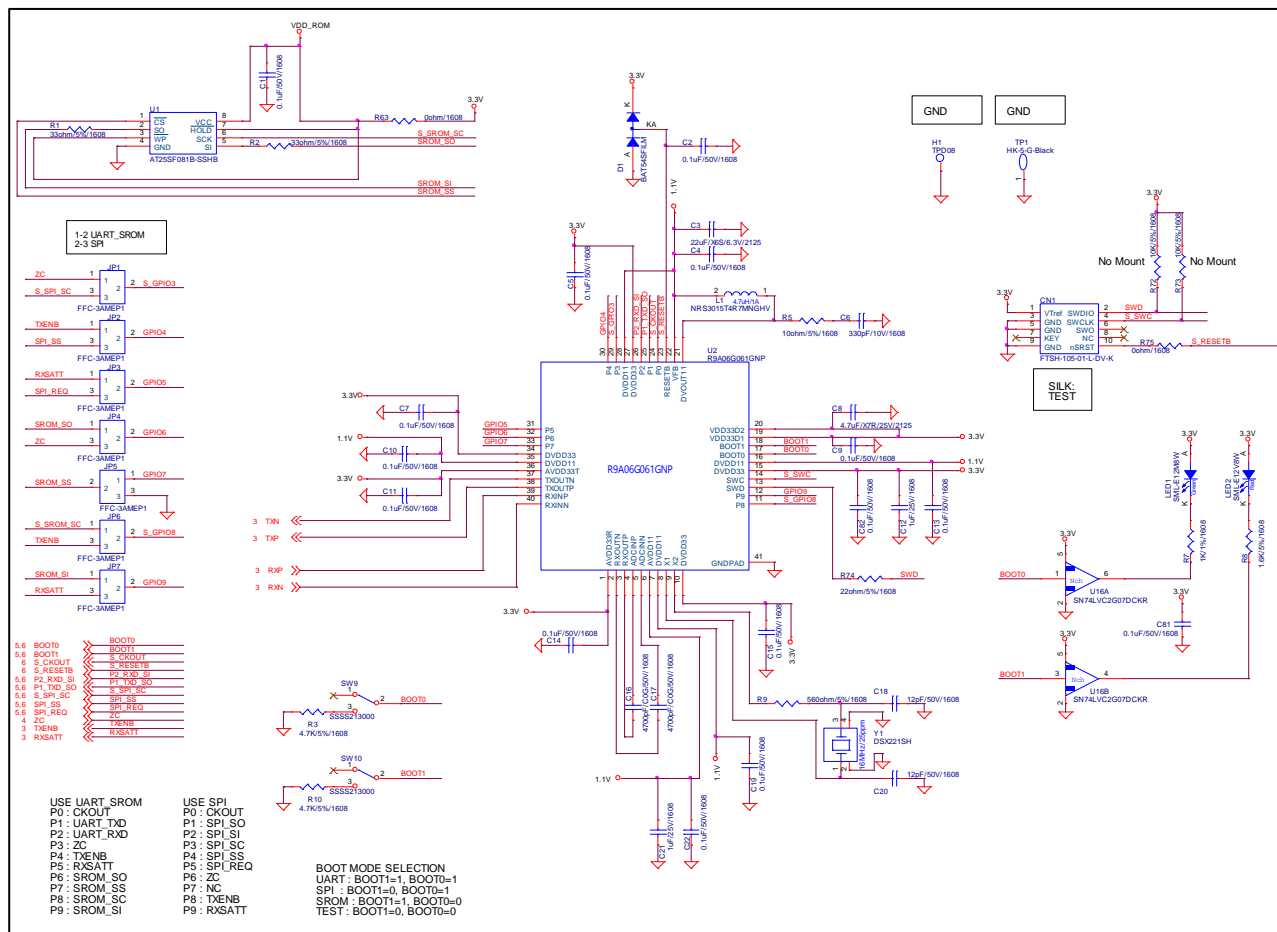

Figure 6-1 AC-PLC board (R9A06G061 peripheral circuit)
- Section 6.1 shows an example of circuit design (Figure 6-1-Figure 6-8), and Section 6.2 shows an example of Bill of materials (Table 6.1-Table 6.5).